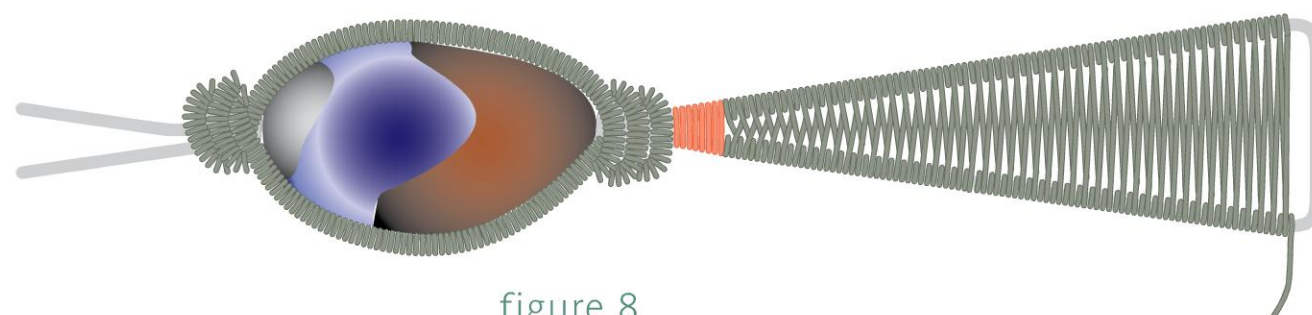

figure 8
- 1 6** Work Weave Pattern 1 (page 16), weaving as close to the end of the frame as possible (Figure 8).